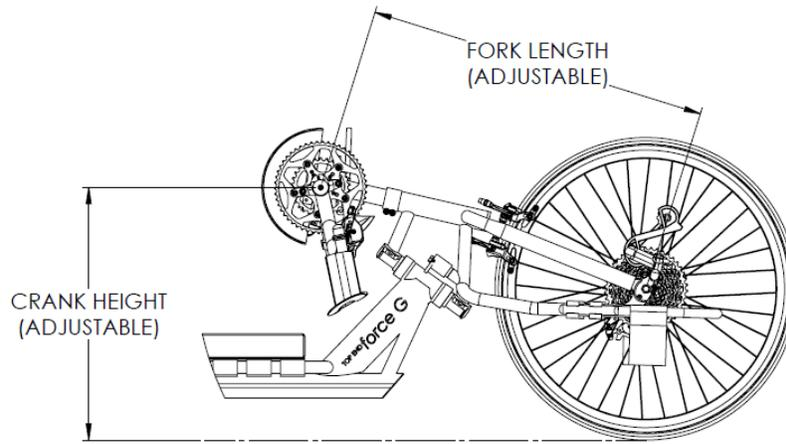

Figure 3
3. Crank Height: (+/- 1/4") Measured from the ground to the center of the bottom bracket. See Figure 3. **NOTE: This product features adjustability for this measurement.**
4. Fork Length: (+/- 1/4") Measured from the center of the front wheel axle to the center of the bottom bracket. See Figure 3. **NOTE: This product features adjustability for this measurement.**